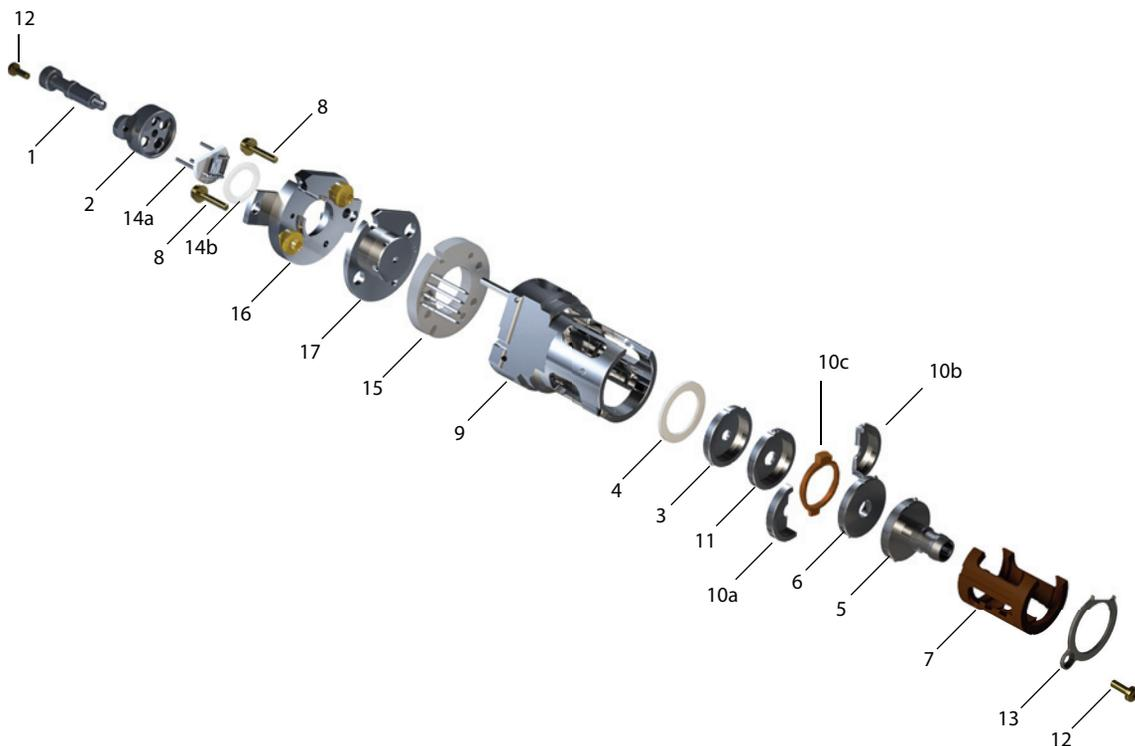

Figure 64. Assembling the EI HES 2.0
Refer to the exploded parts view and the EI HES 2.0 parts list while using this procedure. (See Figure 64 on page 200 and Table 21 on page 200.)
- 3 Insert the lens stack encased in the insulator into the source body. (See Figure 64 on page 200.) The engraved numbers face the full opening extending to the end of the source body. Verify that the ceramic is sitting flush at the end of the source body.
- 9 Thread the finger grip into the filament block. (See Figure 64 and Table 21 on page 200.)
**Table 21** Parts list for EI HES 2.0 (Figure 64)
**Table 21** Parts list for EI HES 2.0 (Figure 64) (continued)